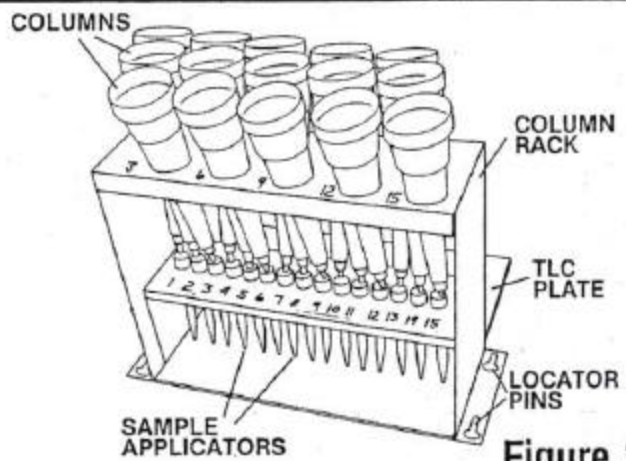

Figure 2B
- c. When going directly from column to applicator it is first necessary to place the column rack into position (Fig. 2B) over the applicator rack using the locator pins as a guide. Racks are held in place using thumb-screws to locate and hold racks in place. Columns are then dropped into position over the applicators and up to 2 mL of the elution solvent is pipetted directly into the column reservoir.